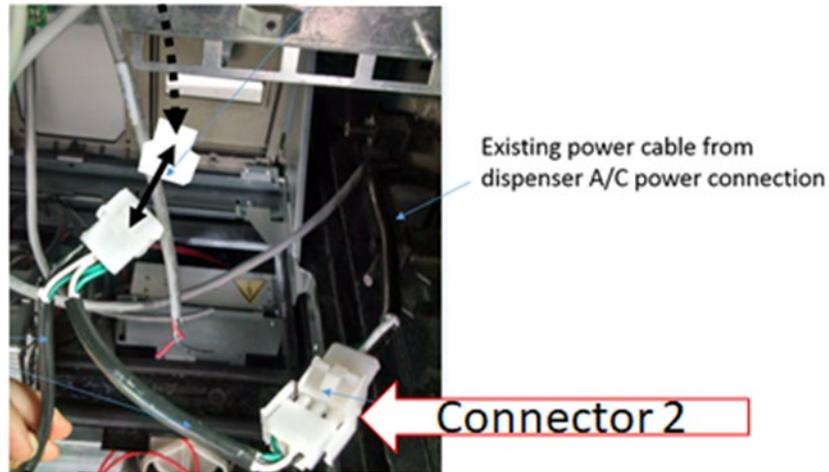

Figure 260
28) Affix Connector 2 (identified in Figure 260) to the existing dispenser A/C power cable as shown in Figure 261.